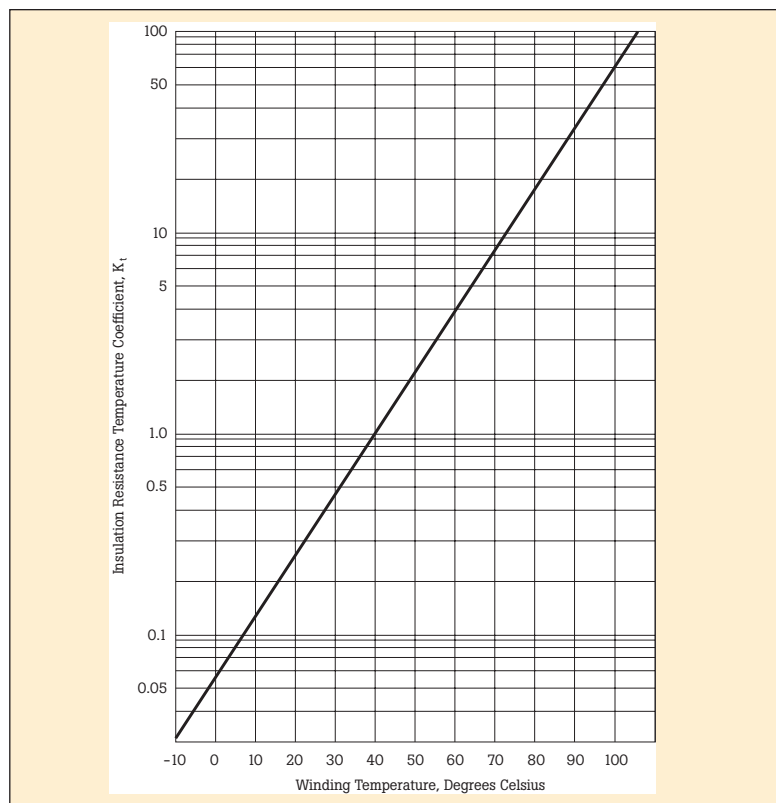

Figure 10. Approximate temperature coefficient for rotating machines
- Kt - Insulation resistance temperature coefficient at winding temperature, obtained from Figure 10